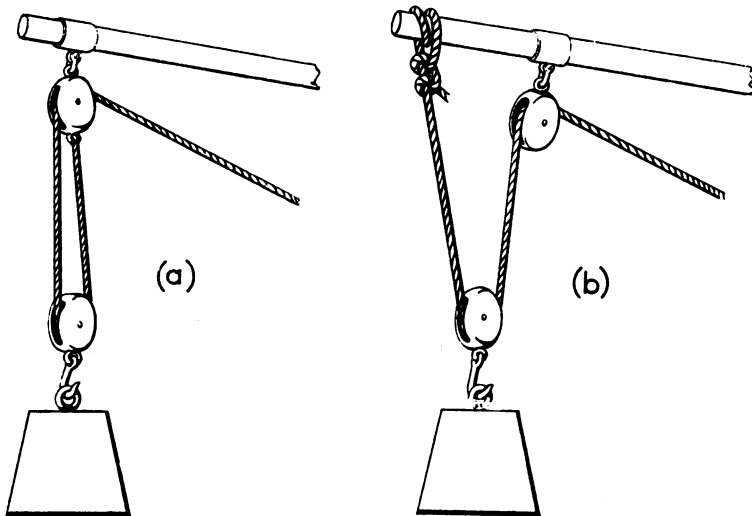

Fig. 179.—Double whips
(3) *The Double Whip* (Fig. 179) is a purchase used for hoisting and consists of two single blocks with the standing part of the fall made fast near, or to, the upper block. Its M.A. is 2, and it cannot be rove to advantage.